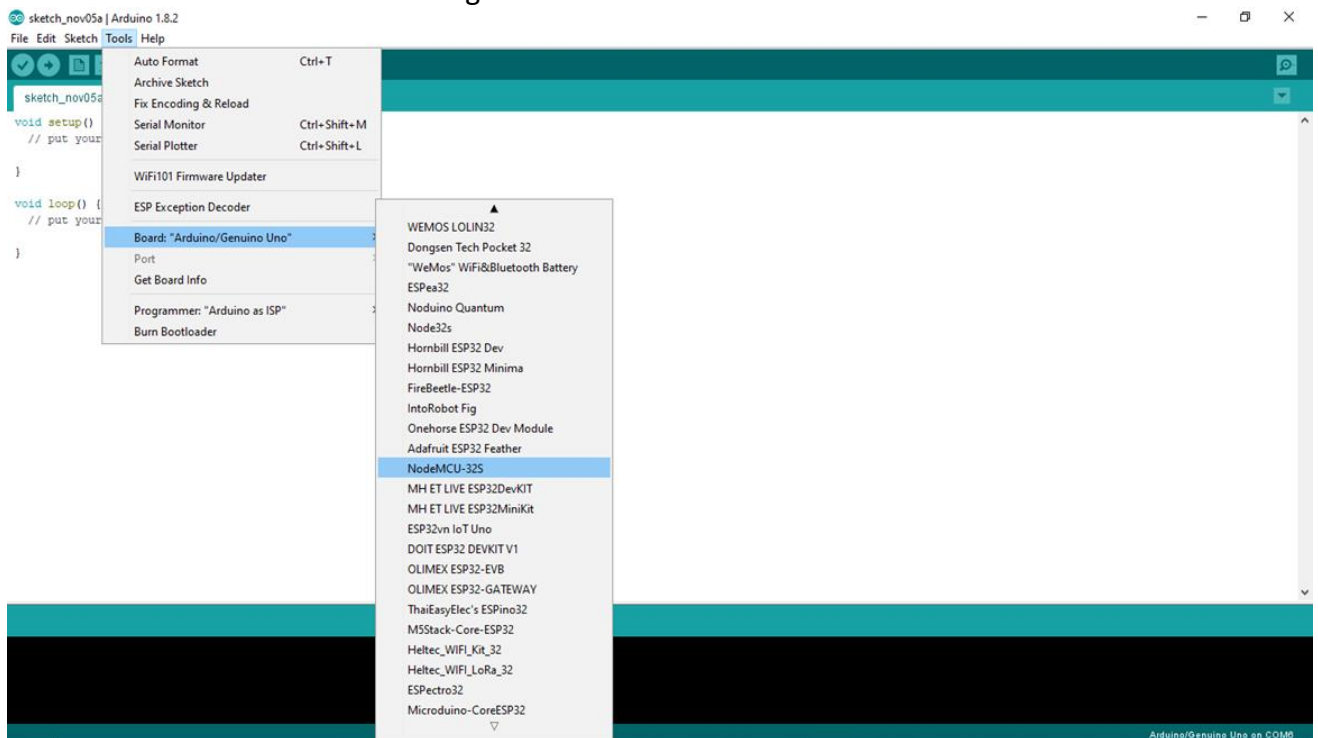

Figure 9: Board Selection
9. Click on Tools Tab, move mouse pointer on “Board: Arduino / Genuino Uno” and click on “NodeMCU-32S” as shown in figure 9.